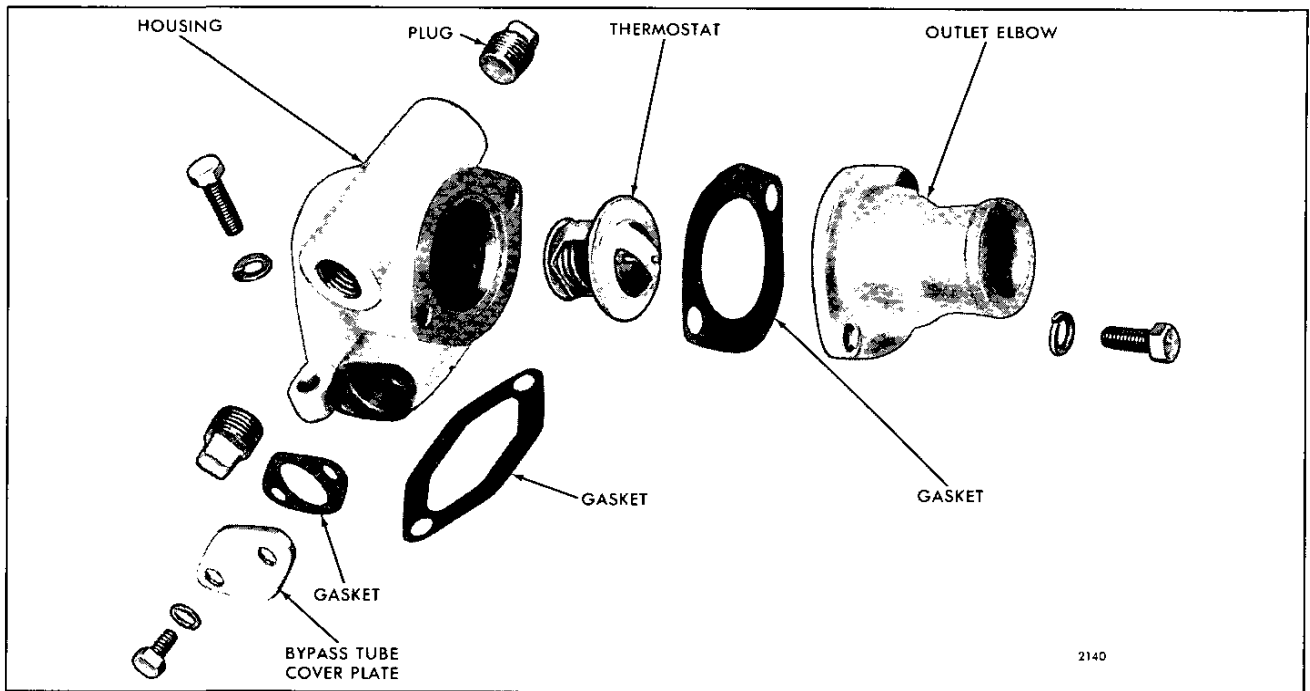

Fig. 3 – Thermostat Housing Details and Relative Location of Parts (In-Line Engine)
3. Loosen the bolts and remove the water outlet elbow from the thermostat housing on the In-line engine (Fig. 3). Take out the thermostat.
Refer to Figs. 3 and 4 and install the thermostat(s) as follows: